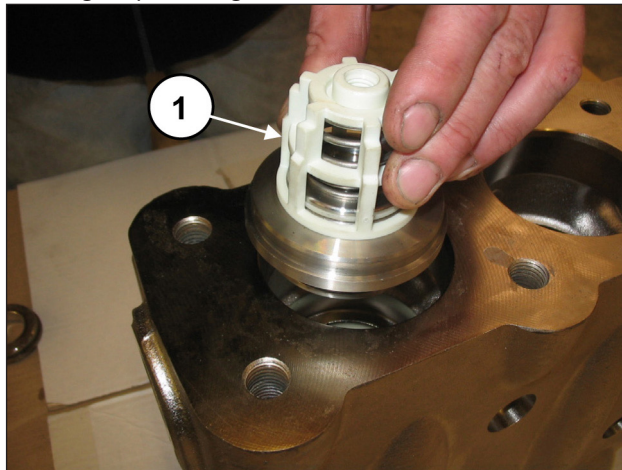
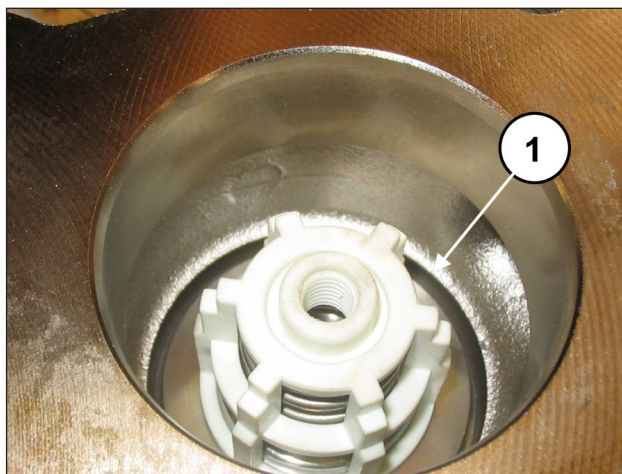

Fig. 97
Fig. 98
Insert the outlet valve unit (pos. ①, Fig. 97). The valve unit must be fully inserted into the bottom and should look like the image in pos. ①, Fig. 98.